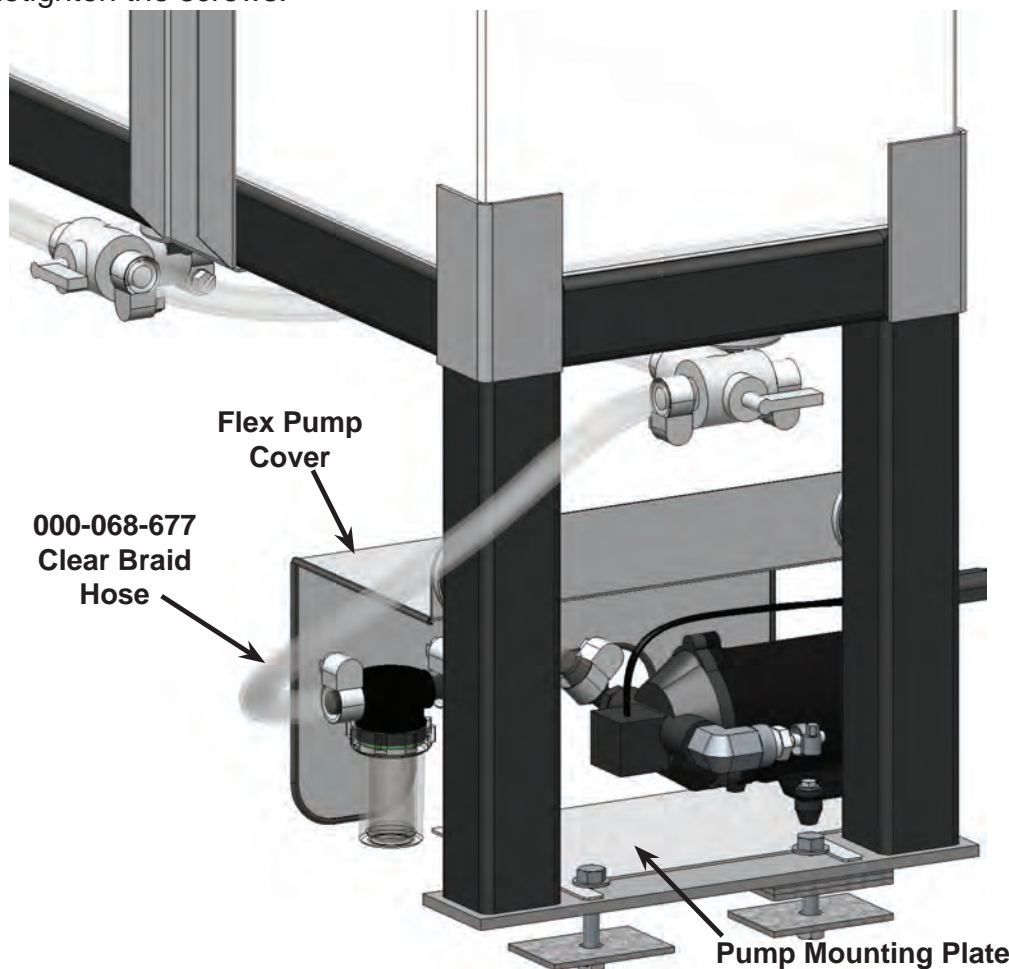

Figure 76. Position Passenger Side Pump with Flat End Facing Van Wall
2. Loosen the 2 tap bolt screws and slide the pump mounting plate under the screws so that the plate tabs are secured by the screws (see Figure 76).
4. A clear braid hose, P/N 000-068-677, is pre-installed onto the 3-way ball valve at the factory. Connect that hose to the pump's strainer (see Figure 76).
6. Position the Flex Pump Cover over the pump, attaching the magnets to the tank frame (see Figure 76).